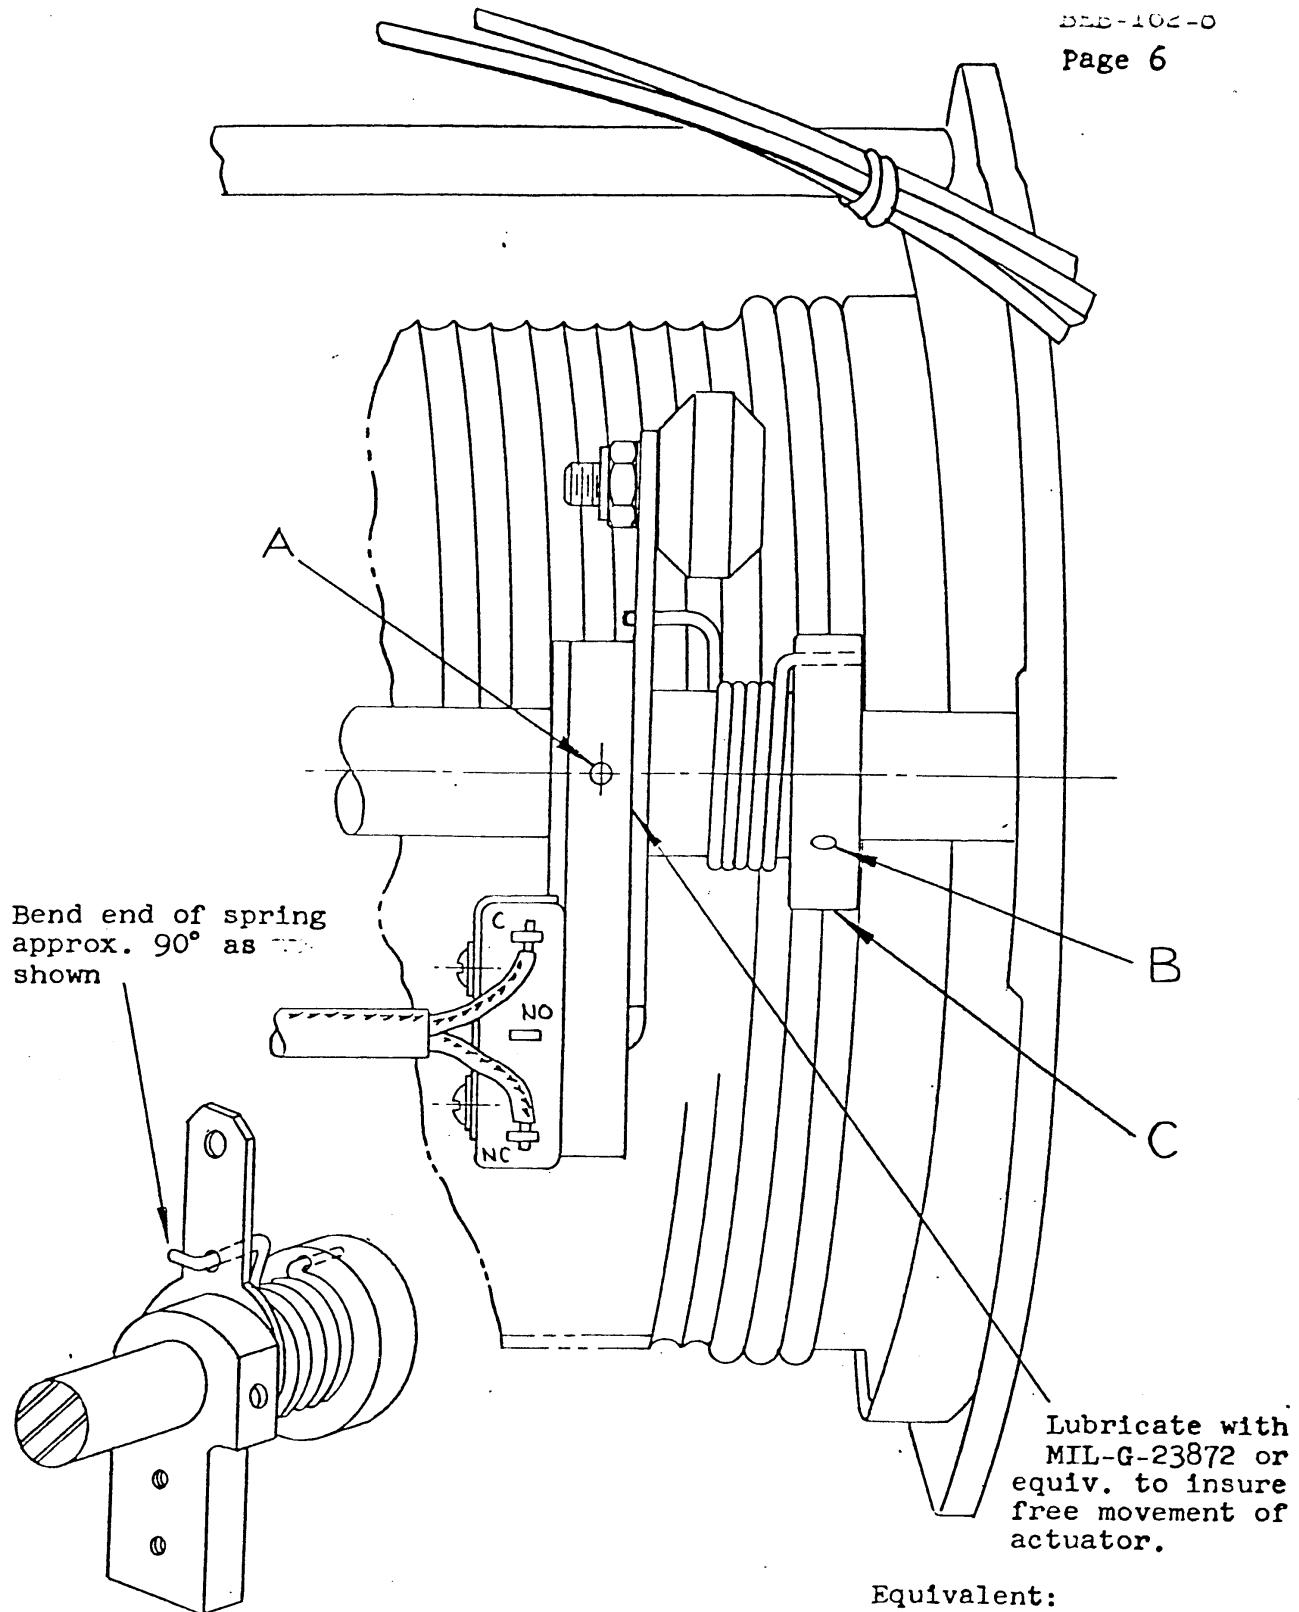

Figure 2
1. Switch assembly must be positioned on cross bar so as to allow switch roller to contact grooved surface of drum immediately adjacent to inactive cable wraps (2 1/2 to 3 1/2 wraps). This may be accomplished by loosening both socket head screws (A and B, Fig. 2) in the switch bracket and collar assemblies. The switch assembly may then be slid across the bar to the desired position. Tighten socket head screw in switch bracket (A, Fig. 2) to 9 in. lb. Torsion spring must be wound 90° to 120° from the free position and then tighten the socket head screw (B, Fig. 2) to 9 in. lb. The spring is wound by rotating the collar (C, Fig. 2) in a clockwise direction when viewed from the motor end of the hoist. .002 to .005 end clearance must be maintained to permit proper movement for actuator arm.
2. With roller resting on grooved portion of drum adjacent to the proper number of inactive turns (2 1/2 to 3 1/2) loosen socket head screw (A, Fig. 2) and rotate switch bracket until switch can be heard to actuate. Tighten socket head screw to a torque of 9 in. lb. End clearance must be .002 to .005 for proper operation.
3. Bend end of spring per Fig. 2.